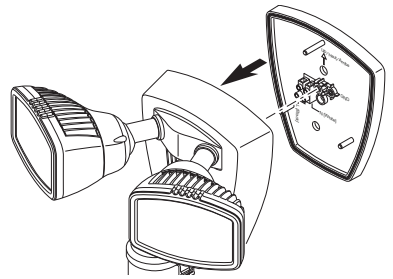

Figure 1
1. Unscrew the center mounting bolt connecting the fixture canopy to the 1-2-Ëasy Connect™ and remove the 1-2-Ëasy Connect™ (see Figure 1). The mounting bolt is designed to stay in the light fixture. *Note:* Be sure rubber gasket is on the 1-2-Ëasy Connect™.